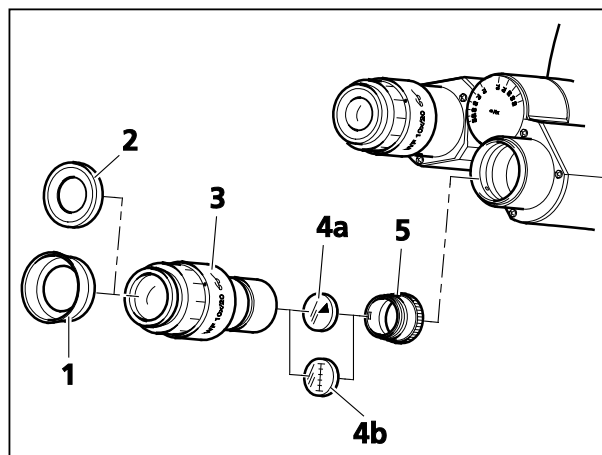

Fig. 16 Inserting the eyepiece pointer or eyepiece micrometer
The eyepieces (Fig. 16/3) can be equipped with fold-over rubber eyecups (Fig. 16/1: pulled out; Fig. 16/2: folded over). Die eyecups are supplied together with the eyepieces, but are not yet mounted.
- Unscrew the stop (Fig. 16/5) by hand from the eyepiece.
- Insert the eyepiece pointer (Fig. 16/4a) or the eyepiece micrometer (Fig. 16/4b) into the eyepiece (with the coated side facing your eyes).
- Turn the focusing ring of the eyepiece (Fig. 16/3) to focus on the wedge-shaped figure of the eyepiece pointer.